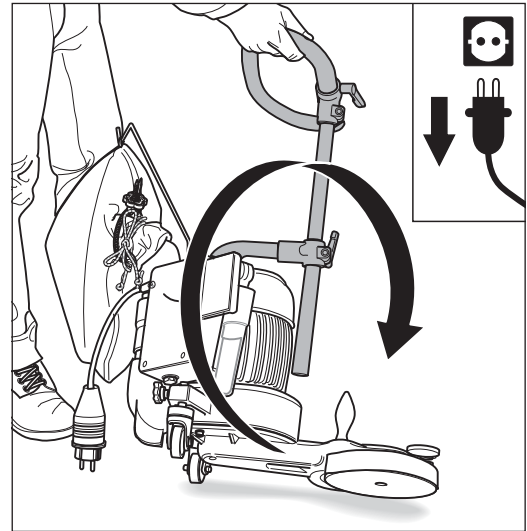

Fig. 54 Tilt the UNICO over to the **left-hand** side and set it down carefully.
- 3 Place the UNICO on its side by grabbing the machine by the handlebar on the right-hand side and then tilt the machine over to the **left-hand** side (Fig. 54) and set it down carefully.